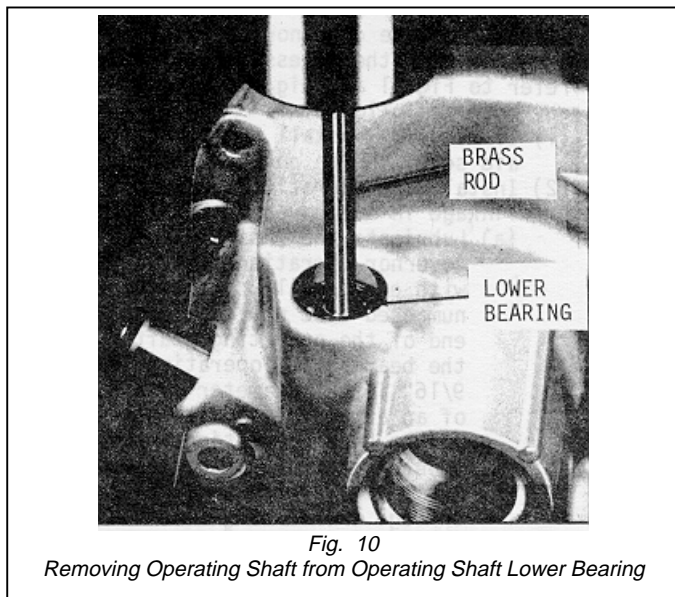

Fig. 10
- (f) Support the governor housing bottom side up on the bed of an arbor press, with the two dowel pins in the top of the housing between the two steel supports. Place a small brass rod on the end of the operating shaft and press the shaft out of the bearing (Fig. 10).